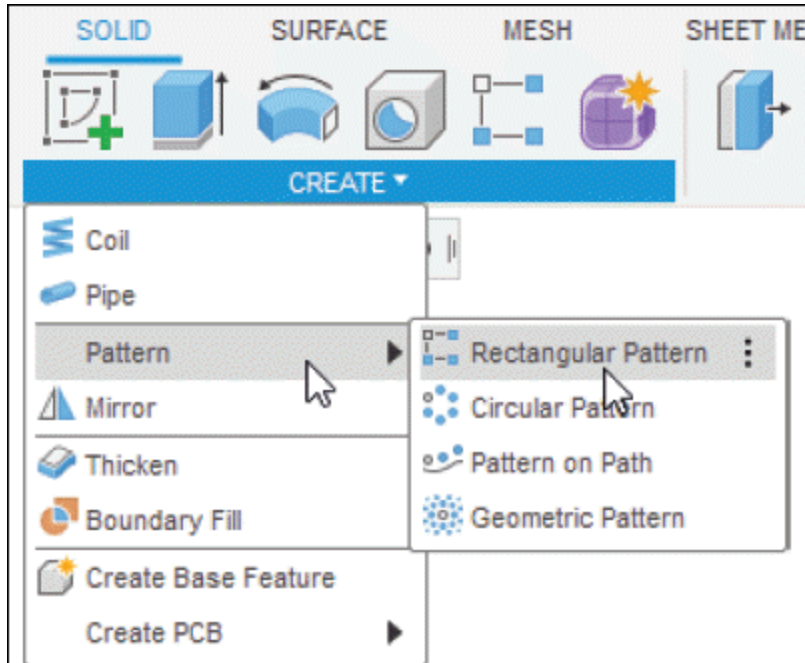
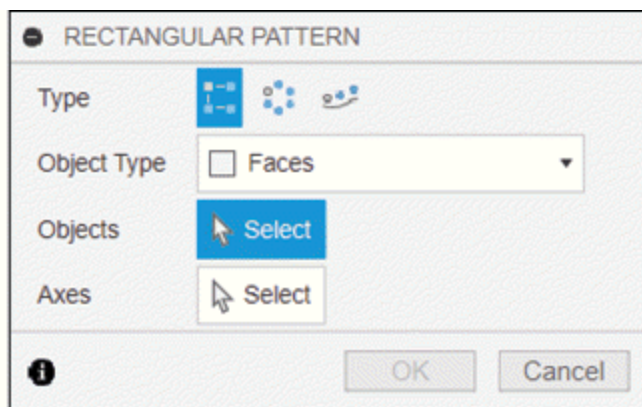

Figure-87. Rectangular Pattern tool in solid
Figure-88. RECTANGULAR PATTERN dialog box in solid
- Click on **Rectangular Pattern** tool of **Pattern** cascading menu from **CREATE** drop-down in the **Toolbar**; refer to Figure-87. The **RECTANGULAR PATTERN** dialog box will be displayed; refer to Figure-88.